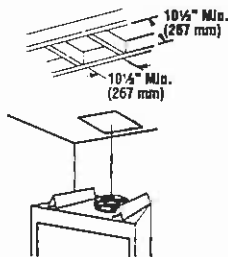

FIGURE 16
A. Frame ceiling opening - Use a plumb line from the ceiling above the appliance to locate center of the vertical run. Cut and/or frame an opening, 10 1/2" x 10 1/2" (267 mm x 267 mm) inside dimensions, about this center mark (**Figure 16**).
C. Frame ceiling opening - If the vertical route is to penetrate a ceiling, use plumb line to locate the center above the appliance. Cut and/or frame an opening, 10 1/2" x 10 1/2" (267 mm x 267 mm) inside dimensions, about this center (refer to Figure 16 on page 11).